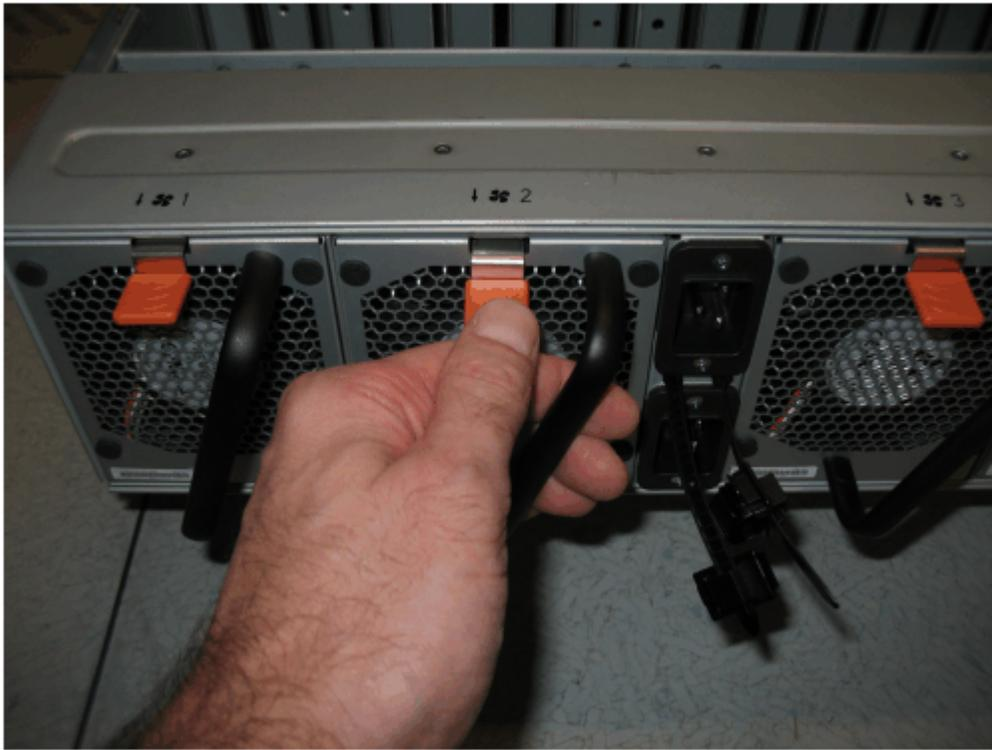

Figure 170. Fan module release tab
2. Press the release tab on the fan module, as Figure 170 on page 224 shows.